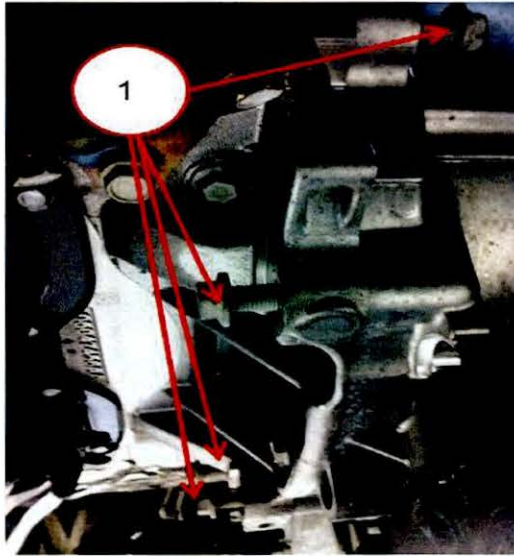

Fig. 6 Lower Transaxle to Engine Fasteners
22. Loosen but do not remove the lower transaxle to engine block bolts (Fig. 6). Back out bolts approximately 15mm (0.59 inches).